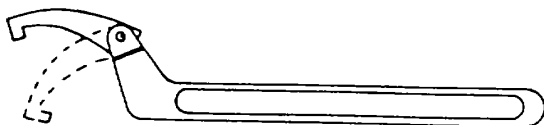

Figure 4-39. Adjustable Hook Spanner Wrench
(2) *Adjustable spanner wrench*. Solid spanner wrenches are sized for specific sizes of nuts. The adjustable spanner wrench, shown in figure 4-39, has a pivoting end which allows the wrench to fit several nut sizes. The type of wrench shown is a hook spanner, and is used the same way as the solid hook spanner.